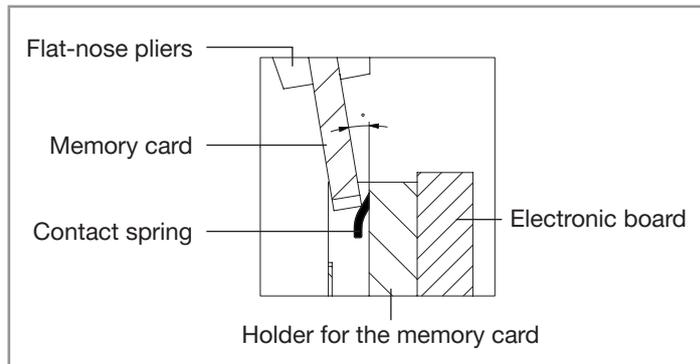

Fig. 27: Insertion of the memory card with flat-nose pliers
- Grip the memory card with flat nose pliers and insert the memory card at an angle. See Fig. 27. Apply pressure to overcome the counter force of the spring contact.